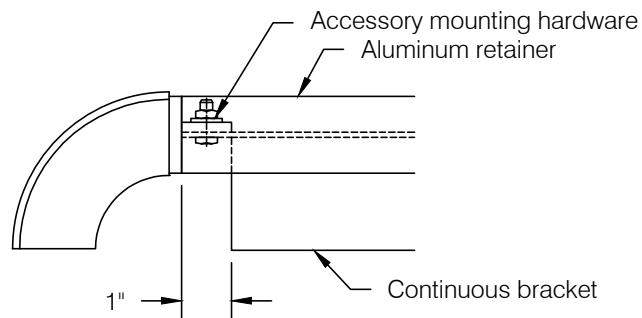

fig 2
- Step 2:** Cut aluminum retainer and continuous bracket. See **Cutting Adjustment Diagrams and Schedule** for adjustments to aluminum retainer and bracket length at wall returns, inside corners, and outside corners. To allow for accessory mounting hardware continuous bracket must be cut 1" shorter than aluminum retainer at all accessories, see **fig 2**. Refer to **Minimum Layout Configurations** for additional information.
- Step 3:** Layout aluminum retainer "face up" and mark bracket mounting hole locations. Place retainer on top of continuous bracket making sure end bracket is set in 1" from end of retainer at each accessory location, see **fig 2**. Align V-Groove in retainer and bracket extrusions to locate centerline for drilling. Using the V-Groove in the retainer as a guide, drill clearance holes through both profiles for wall mount fasteners.